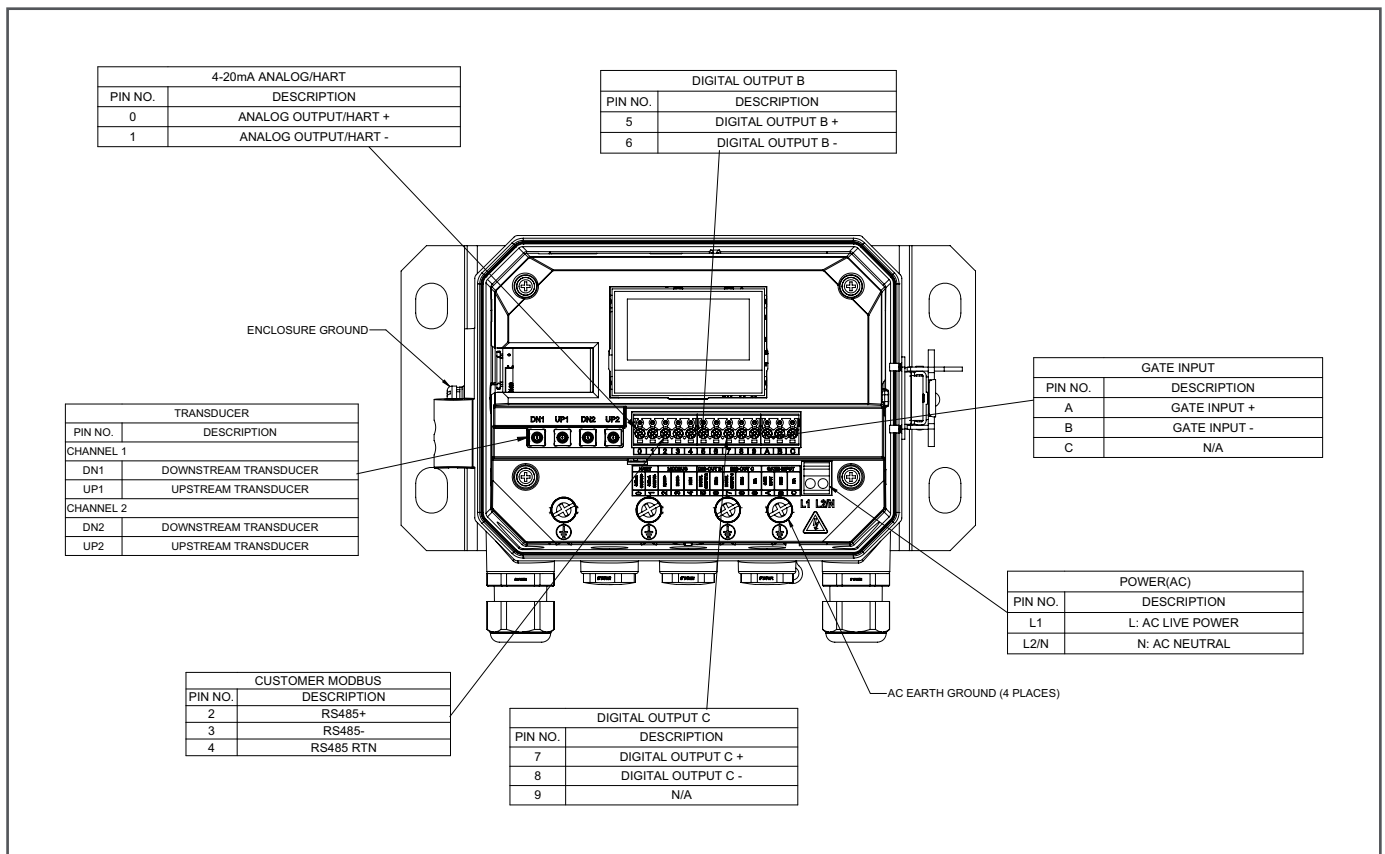
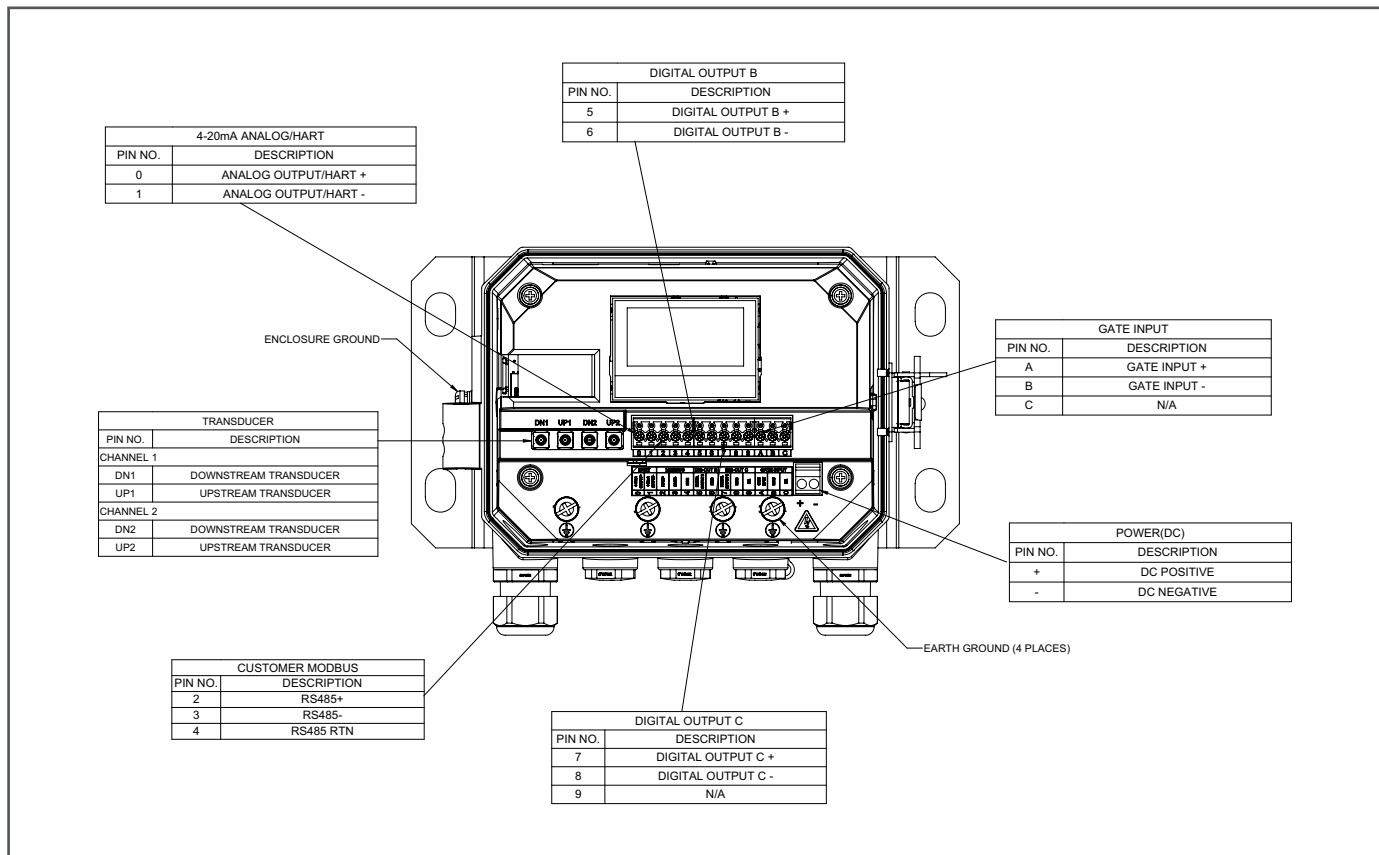
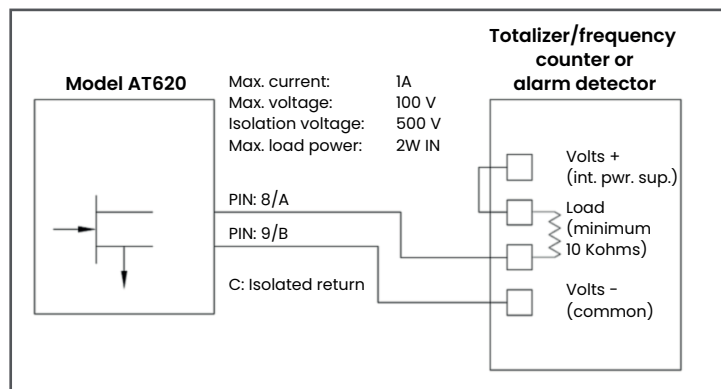
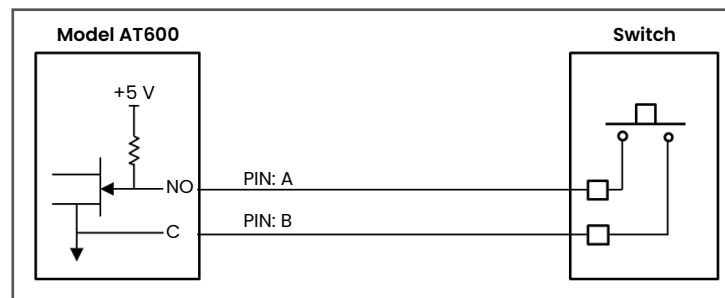

Figure 23: Wiring Diagram AC Option
Figure 24: Wiring Diagram DC Option
Figure 28: Totalizer/Frequency/Alarm Output Wiring
Figure 29: Gate Input Wiring
2. Connect the power and transducer cables to the AT620, as shown in *Figure 23 on page 19*
This section includes instructions for making all the necessary electrical connections to the AT620 flow meter. Refer to *Figure 23* below for the complete wiring diagram of the meter.
Refer to *Figure 23* and *Figure 24* to locate the terminal block and connect the line power as follows:
2. Connect the ground lead to the internal ground connection (GROUNDING 1) located on the bottom panel of the electronics enclosure (See *Figure 23* on page 19).
3. Connect the neutral AC lead (or the negative - DC lead) to L2/N(-) and the AC line lead (or the positive DC lead) to L1(+), as shown in *Figure 23* on page 19.
3. Connect the cable connector with yellow DN jacket on the cable to the DN terminal, and connect cable connector with white UP jacket on the cable to the UP terminal, as shown in *Figure 23* on page 19.
3. Refer to *Figure 23* on page 19 for the location of terminal block I/O, and wire the terminal block as shown above.
To wire the Modbus RS485 serial port, refer to *Figure 23 on page 19* above and complete the following steps:
The AT620 can accommodate up to two digital outputs. Each of these outputs can be configured as either a totalizer, frequency or alarm output (see “Programming Digital Communications” on page 52 for instructions). Each totalizer/frequency/alarm output requires a twisted pair cable. Wire the terminal block as shown in *Figure 23 on page 19* and *Figure 28* below.
To wire the Gate input, refer to *Figure 23 on page 19* and *Figure 29* below and complete the following steps: